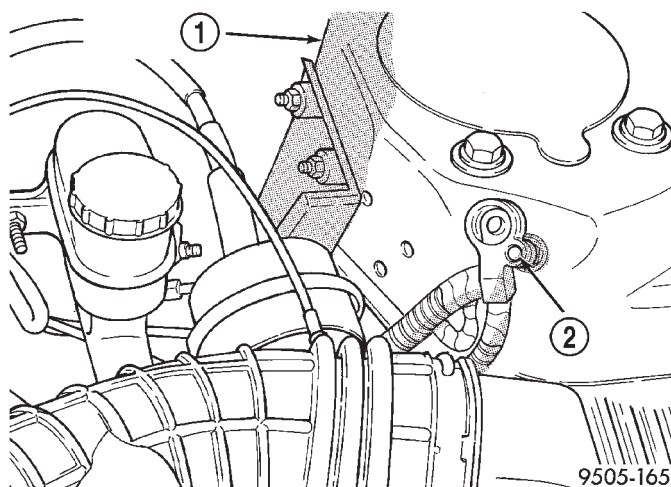

Fig. 63 Correctly Isolated Remote Ground Cable
(2) Correctly isolate remote ground cable when servicing vehicle by installing the ground cable insulator on the strut tower ground stud as shown (Fig. 63). **This will prevent accidental grounding of the remote ground cable.**